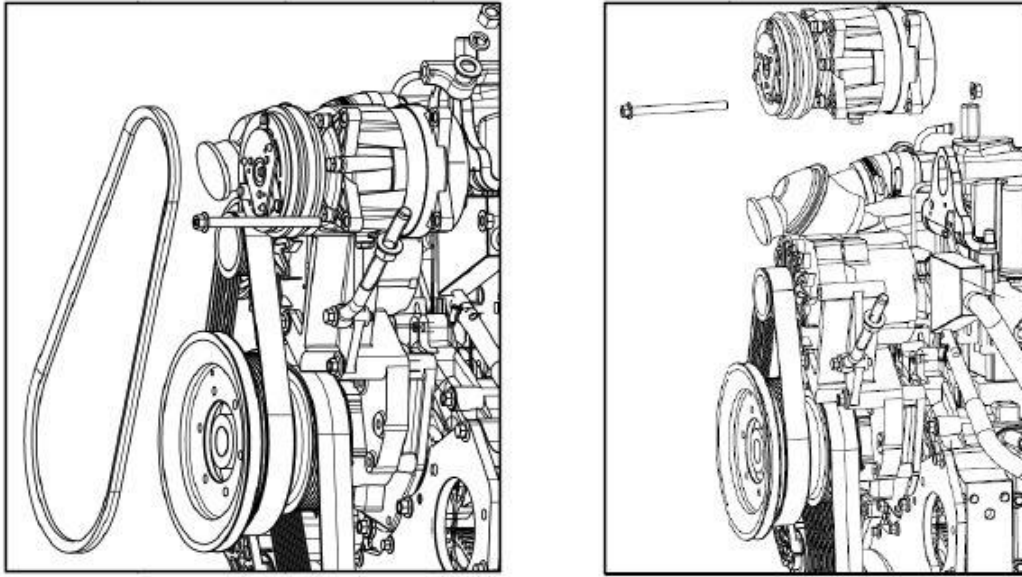

Fig. 4-78 Disassembly of A/C compressor
- (1) Screw off the draw-in nut, remove compressor fastening nut, stud and spacer block, take down the V-belt.
- (2) Remove the other compressor fastening nut and stud, take down the compressor, as shown in Fig. 4-78.